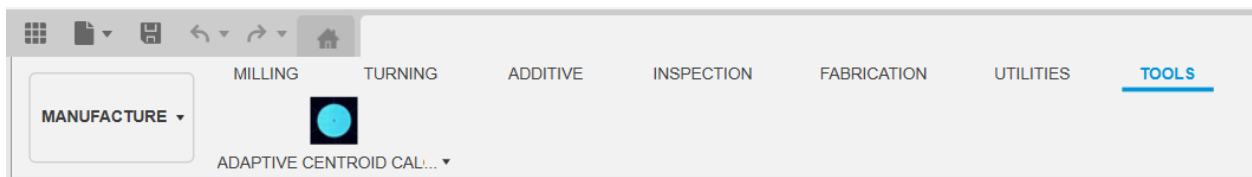

Figure 1: CentroidCalculator button in tools tab
- Confirm the **Adaptive Centroid Calculator** button is visible (see *Figure 1*).